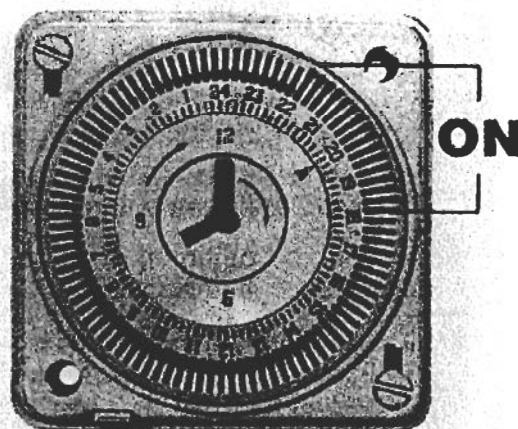

Figure 2
**Automatic defrost / standby timer. (Figure 2)**